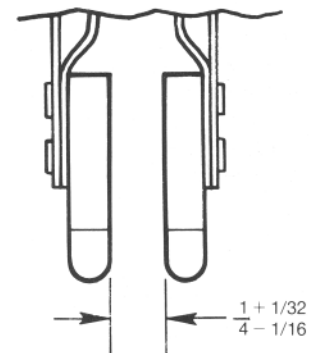

Figure 27.
(1) With the switch open, bend each contact finger inward. Then close switch and repeat step C.
F. After all contact pressure adjustments have been made, check that the contacts have a gap of $1/4 (+1/32 -1/16)$ inch. (See Figure 27.)